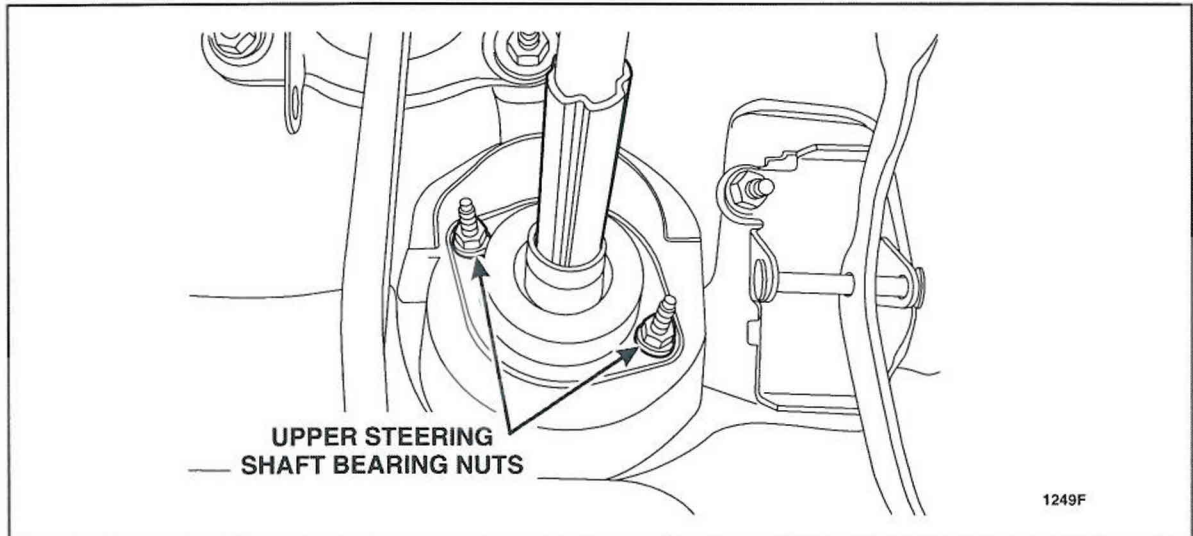

FIGURE 2
3. Remove the 2 upper steering shaft bearing nuts. See Figure 2.
11. Install the 2 upper steering shaft bearing nuts. See Figure 2.